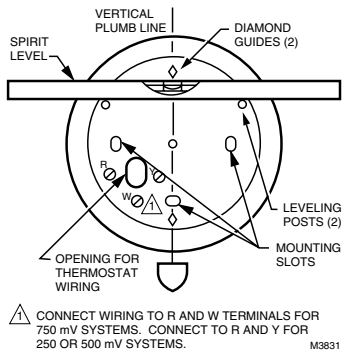

Fig. 1. Leveling wallplate with spirit level or plumb line.
Use plumb line or spirit level to accurately level wallplate (Fig. 1). Inaccurate wallplate leveling causes the temperature control to deviate from the setpoint.
4. Tighten screws after the wallplate is leveled. See Fig. 1 for leveling instructions.
5. Mount wallplate with the screws provided. Tighten screws after the wallplate is leveled. See Fig. 1 for leveling instructions.